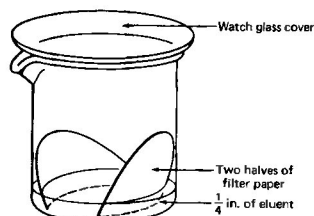

Fig. 121 The secret identity of a 150 mL beaker as a TLC slide development chamber is exposed.
- Take a 150 mL beaker, line the sides of it with filter paper, and cover with a watch glass (Fig. 121). Yes, you can use other containers. I've